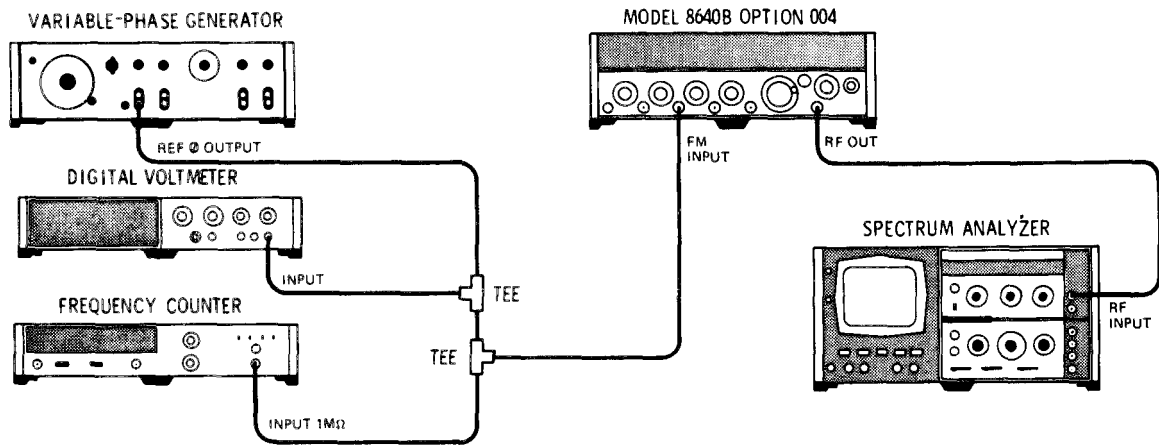

Figure 5-14. FM Sensitivity Adjustment Test Setup
1. Connect equipment as shown in Figure 5-14 after setting Signal Generator's controls as follows: